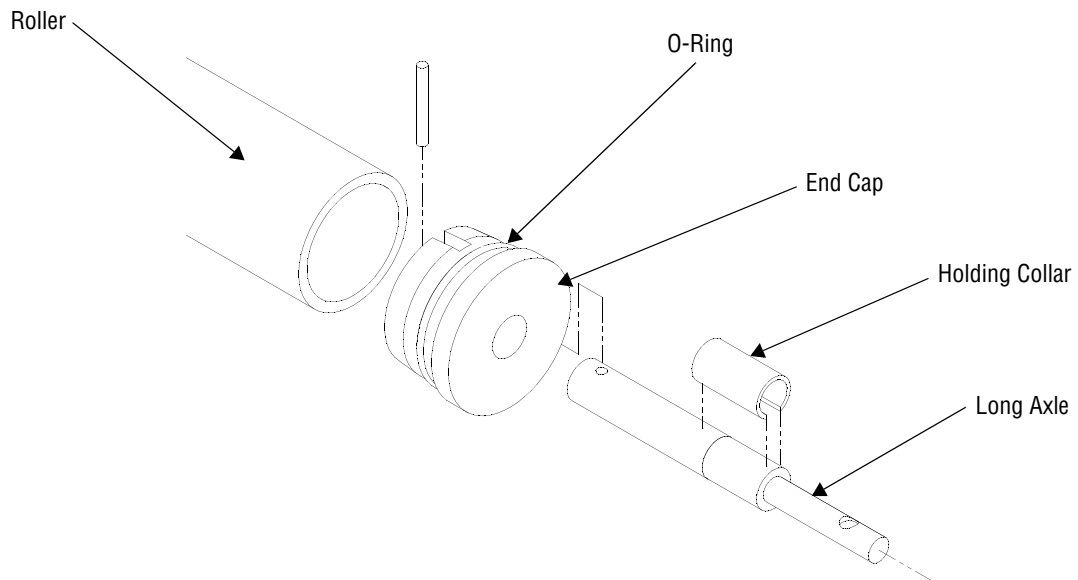

Figure 5-3. Removing Roller (Removable End)
- a. Remove holding collar from long axle, located on removable end of roller (see Figure 5-3).
- b. Place left hand on removable roller end cap, to hold firmly in place on frame (see Figure 5-3).
- b. Push roller assembly firmly against roller cap (see Figure 5-3).
- e. Snap holding collar over axle (see Figure 5-3).